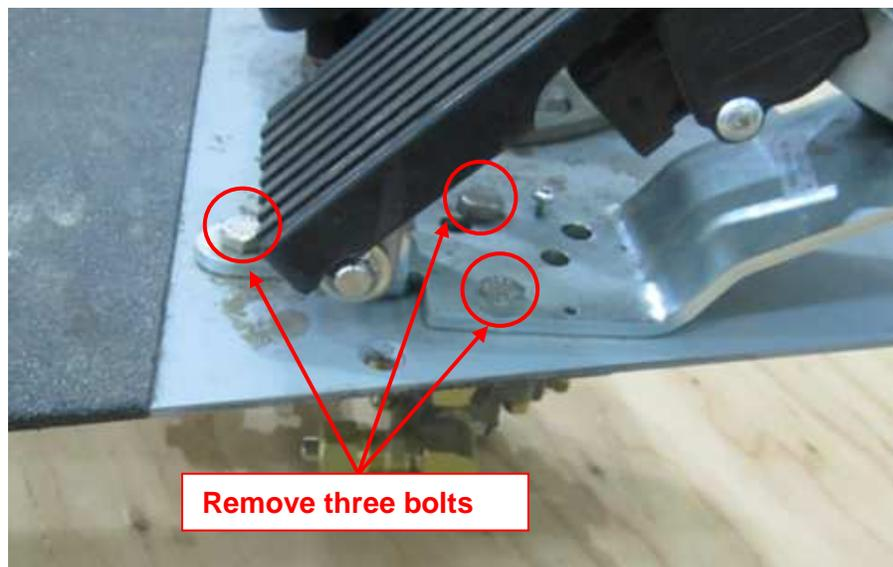

Figure 4: Remove Accelerator Treadle Assembly
15. Remove 3 bolts which attach the accelerator treadle to the plate. Discard locknuts and retain all remaining hardware for reuse, see Figure 4.
27. Using the hardware previously removed in Step 15 and 3 new lock nuts (PN: 40N05000), install the accelerator treadle on the new modified brake plate (PN: 558483), see Figures 4, 10(a) and 10(b).